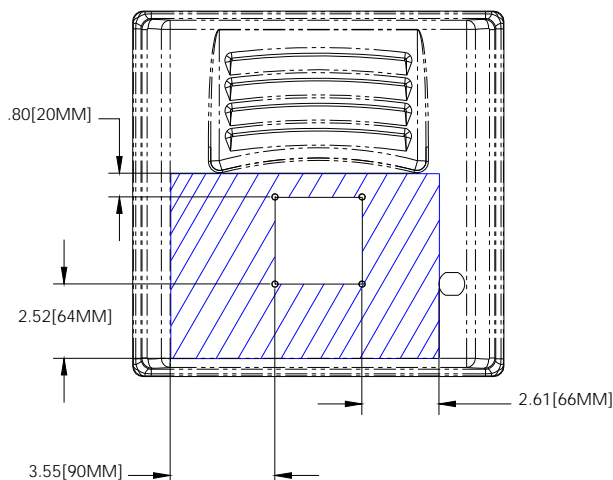
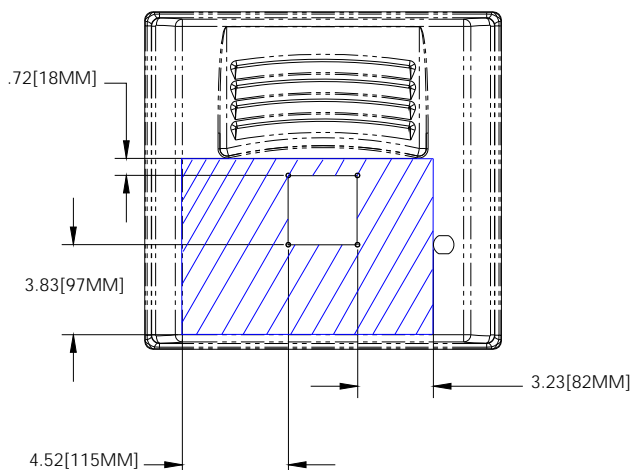

FIG. 35 MB-TP12 Mounting contact surface area
FIG. 36 MB-TP15 Mounting contact surface area
7. Note the available mounting contact surface area on the rear plastic cover of the MB-TP12 (FIG. 35) and MB-TP15 (FIG. 36). This area represents the space available for use with a VESA connector plate.